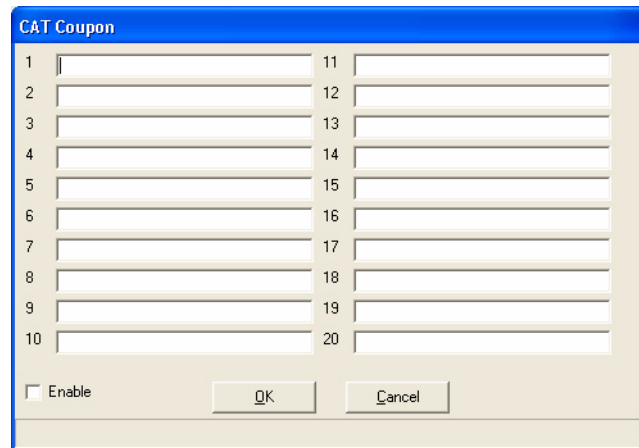

Figure 7-32 CAT Coupon Window
1. Select the **CAT Coupon** button and the CAT Coupon window appears. See Figure 7-32.